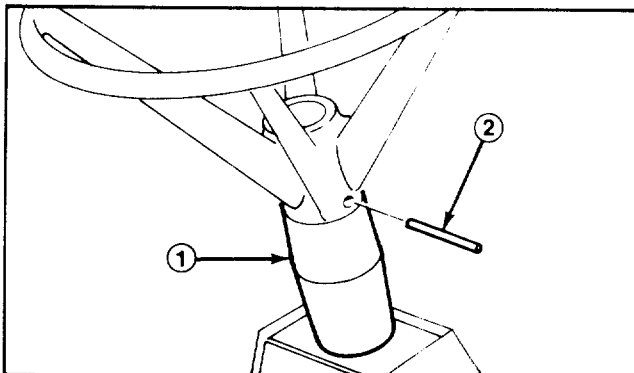

Figure 2
4. Drive the roll pin in until it is flush with the outside of the wheel (Fig. 2).